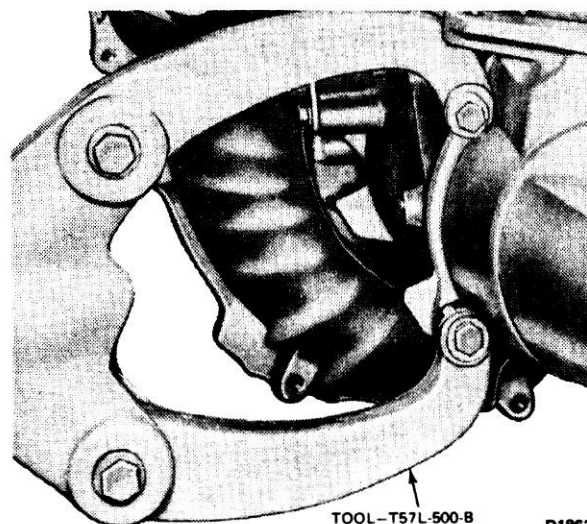

FIG. 15 Transmission Mounted in Holding Fixture—Typical
1. After the transmission has been removed from the vehicle, place the assembly in the transmission holder shown in Fig. 15.